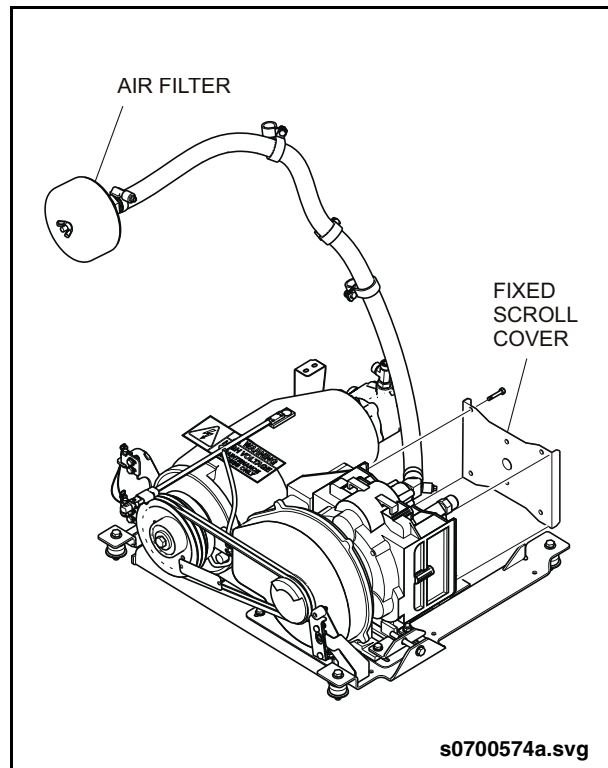

Fig. 2: Scroll Compressor Filter Replacement
- ☐ Remove the fixed scroll cover and clean the cooling fins using compressed air. See "Fig. 2: Scroll Compressor Filter Replacement" on page 3.